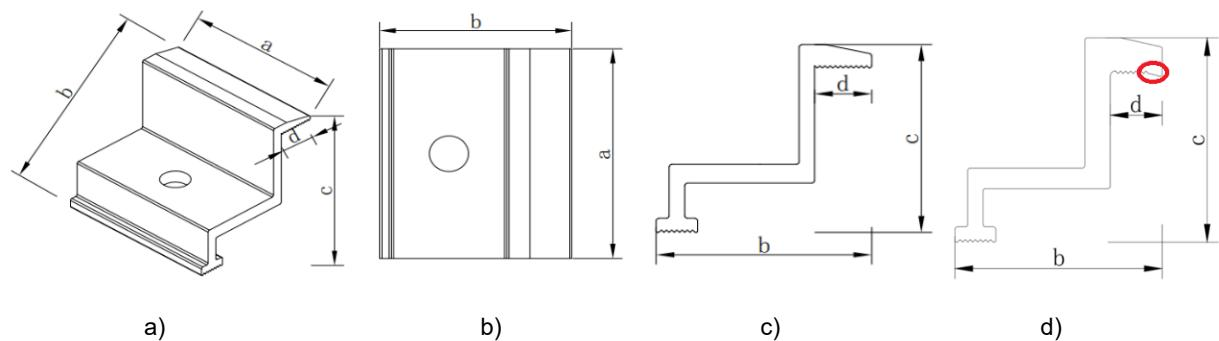

Figure 11. Recommended clamp schematic.
The clamps must not be installed in contact with the front glass of the Module and must not deform, or exercise excessive pressure on, the Module frame. Recommended clamp schematic shown as follows (see Figure 11). Ensure that the clamps do not create a shadow on the Module. Under no circumstances may the frame be altered. When choosing the mounting method for the clamps, make sure that there are at least four clamps on each Module. Different mounting positions of the clamps, as well as the way rails support the modules, determine the maximum load capacity of the Module. Table 7 to Table 9 as follows, show the different mounting methods and the positions of the clamps and rails for the different mounting methods. The distance between the installation position of the long-side clamp and the edge is represented by L in Table 7 to Table 9. The distance between the installation position of the short-side clamp and the edge is represented by S in Table 8 and Table 9. Both L and S refer to the distances from the centre of the clamp to the corresponding edges.
- c) Modules with a length greater than 2.2 m and a width greater than 1.3 m are recommended to be mounted with the camber clamps shown in Figure 11 - d), which enables the clamps to fit better with the frame and provide more stable performance under extreme environmental conditions.